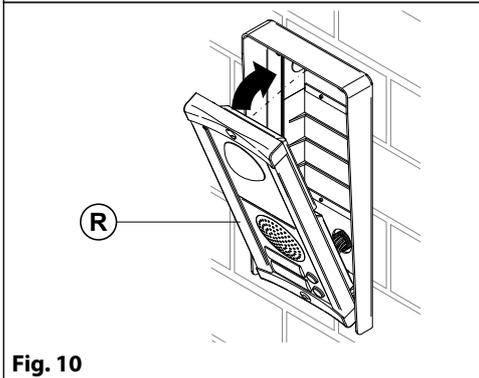
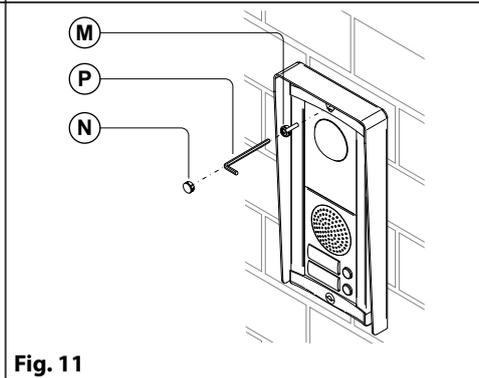

Fig. 10
Fig. 11
11. Lever the support **R (Fig. 10)** upwards and fix it to the back box with the screw **M (Fig. 11)** using an alan key **P (Fig. 11)**;
12. Conceal the screw using the plastic cover **N (Fig. 11)** provided.